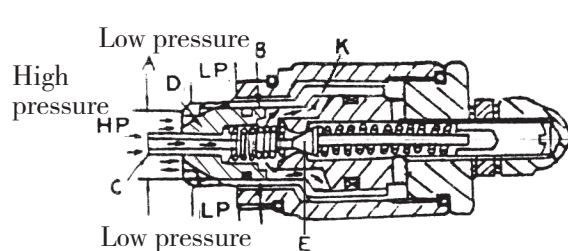

Fig.7.5
(1) The relief valve is mounted between the cylinder port “HP” and the low-pressure passage “LP”. The oil flows through the poppet “C” and affects the two areas “A” and “B” different in diameter, so that the check valve poppet “K” and the relief valve poppet “D” are securely seated. (See fig.7-5)